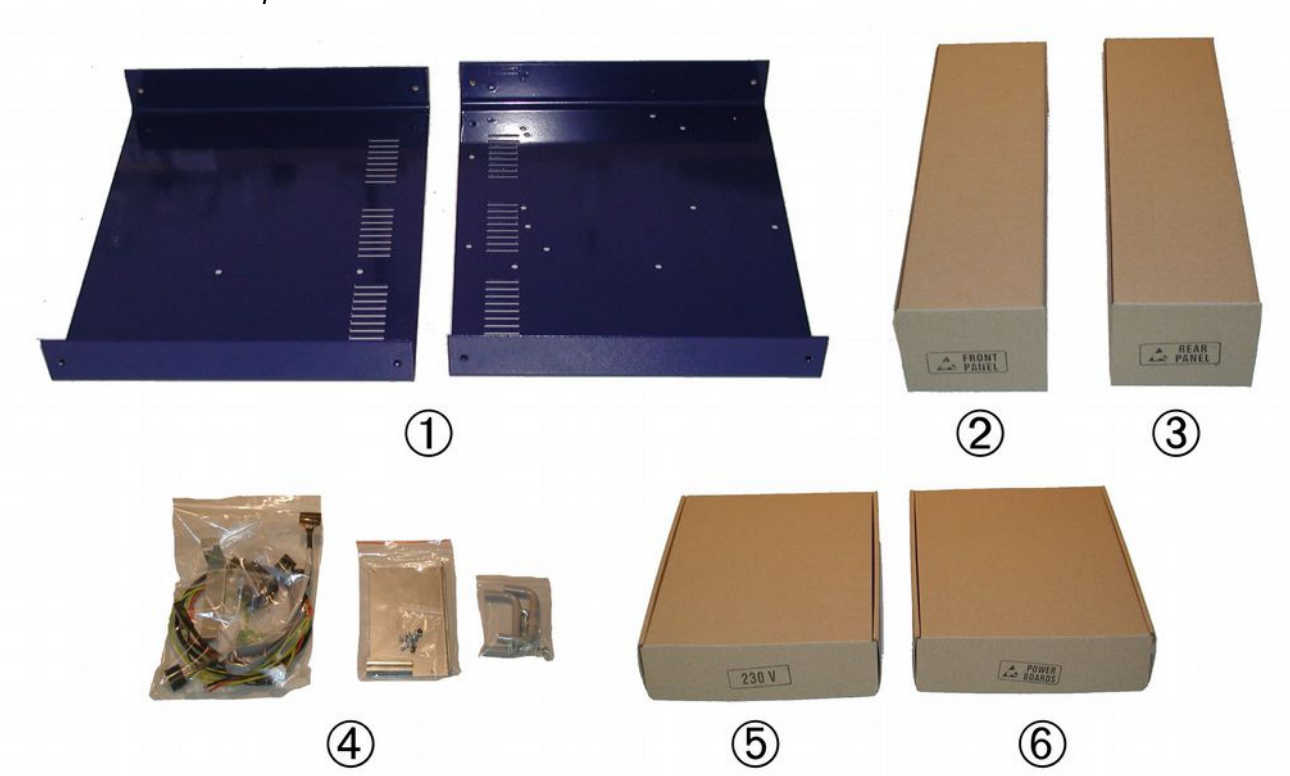

Fig. 1: EEZ H24005 Complete kit box content
Please note that they comes in cardboard box with voltage stamped on (see Fig. 1, item 5), but that voltage denote fuse ratings only (i.e. 4 A for 230 Vac or 8 A for 115 Vac). If you are going to use it with 115 Vac you have to change switch position as described in section AC/DC modules.
The PSU complete kit consists of the following parts, as shown in Fig. 1: